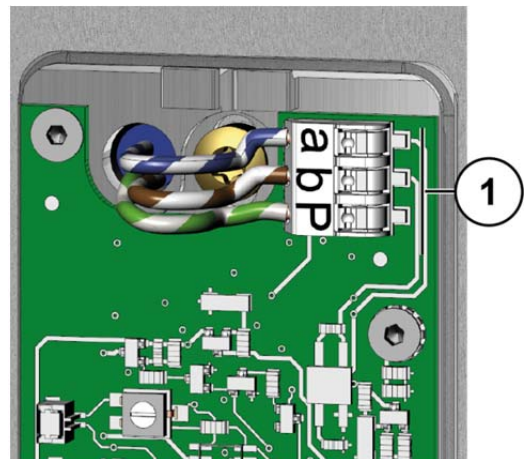

Fig. 4: Connecting the lines
- ▶ Connect the lines (a, b and P) according to the labelling (1) (Fig. 4).